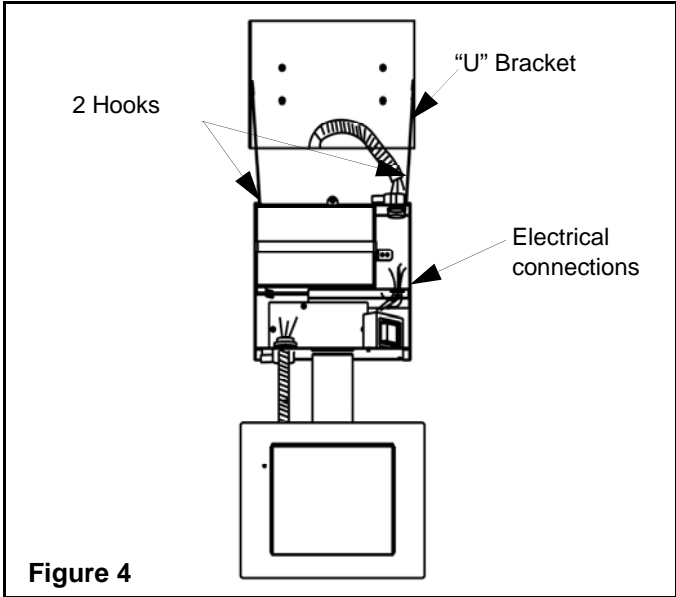

Figure 4
Equipment installation in the wall (Figures 4 and 5)
1. Suspend the unit upside-down from the "U" bracket using the metal hooks (see Figure 4). Do not hang the unit directly on the drywall edge as this can damage the drywall.